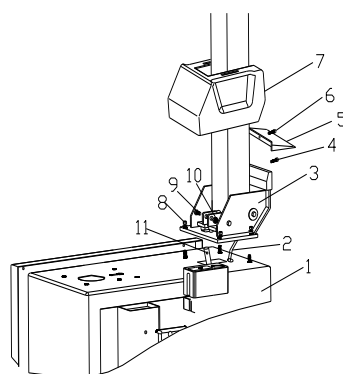

Fig 3
- 2) Place the tilting seat (3, Fig 3) on the body (1, Fig 3) with 4 bolts (M12), push air hose (2, Fig 3) through the hole of the column. Tighten 4 self-locking nut (8, Fig 3).
- 3) Insert screw (9, Fig 3) into the holes of both column and tilting cylinder shaft (11, Fig 3), tighten it with self-locking nut (10, Fig 3).
- 4) Unscrew the two bolts on the left cover and remove the cover, connect air hose (2, Fig 3) previously mentioned to the side holes which control the tilting 5-way valve. Fix the left cover.
- 5) Fix the plastic cover (7, Fig 3) with two bolts (4, Fig 3).
- 6) Mount the plastic back cover (5, Fig 3) on the column with screw (6, Fig 3).